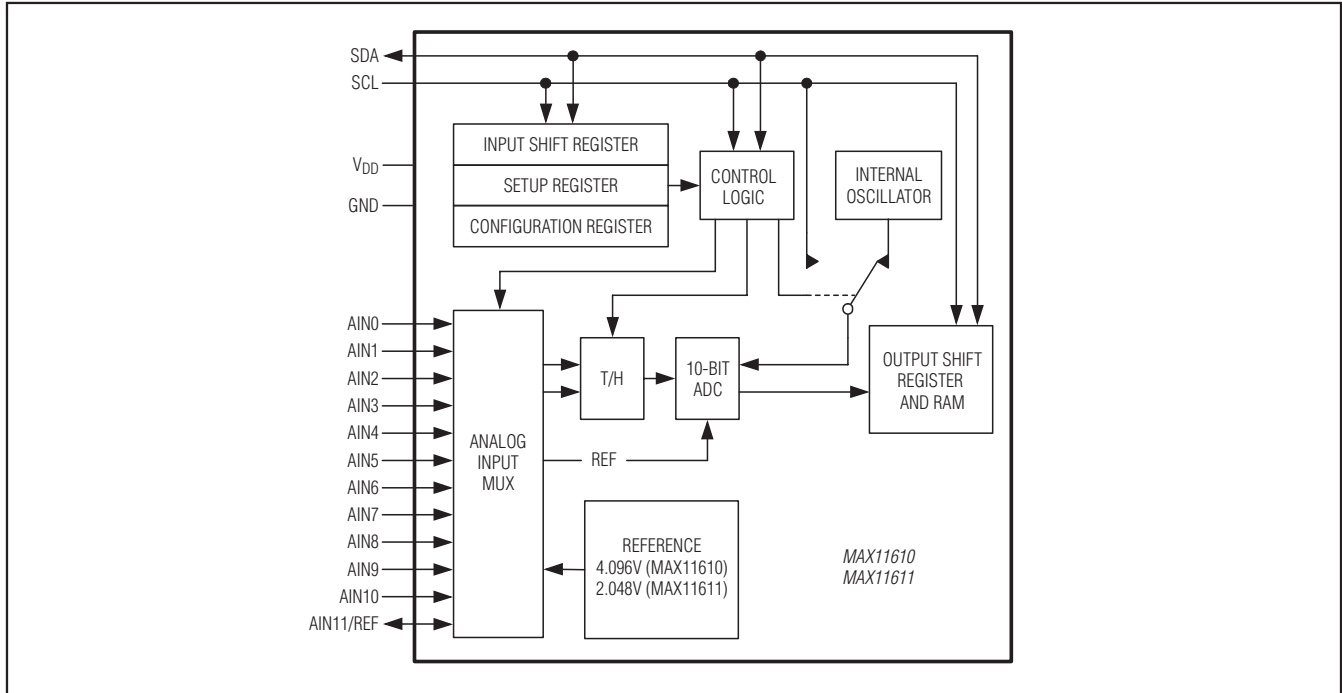

Figure 2. MAX11610/MAX11611 Functional Diagram
1.7MHz. Figure 2 shows the simplified internal structure for the MAX11610/MAX11611.